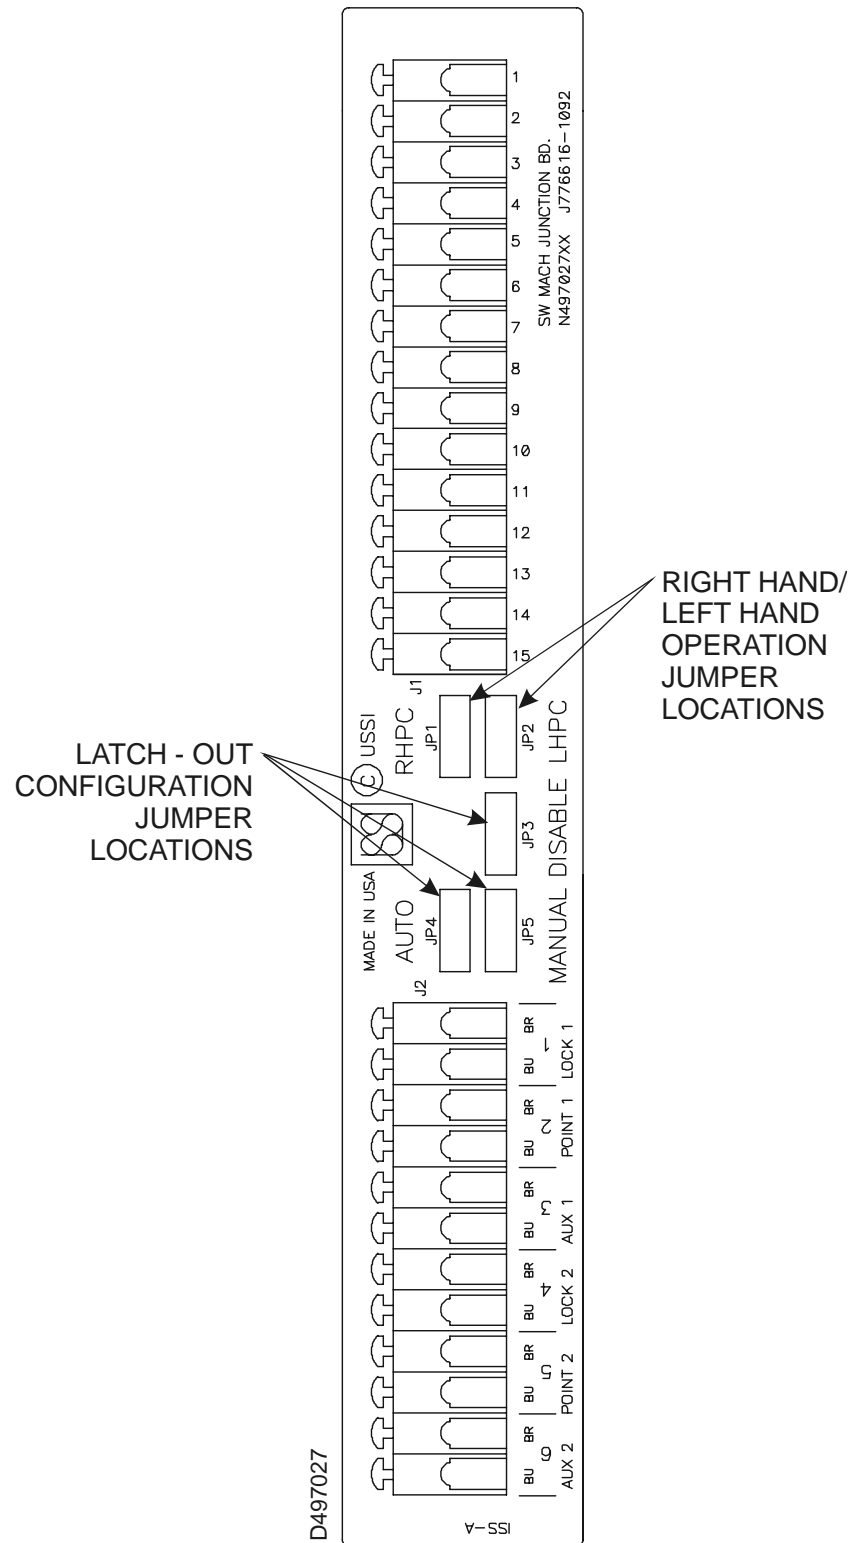

Figure 4-1. Jumper Locations on the Junction Board
The latchout jumper for all ASTS USA “M-style” switch machines is set for either the automatic, manual, or disable function. This configuration is set at the factory based on customer preference at the time the order was placed. To change this configuration, remove the junction box cover and reposition the jumper. See Section 3.1.1 for a detailed explanation of each jumper function. See also Figure 4-1 for the various jumper positions.
9. Change the jumpers to the desired configuration (RHPC/LHPC and/or Latch-Out jumpers). Figure 4-1 shows the location of the jumpers on the junction board in the junction box.
The four vital and two optional auxiliary (non-vital) sensors are all terminated inside the Junction Box (Figure 4-1) located underneath the circuit controller frame. All six sensor wires are brought into the junction box through a six-way cable grip and their brown and blue wires are terminated in WAGO cage clamp connectors. The PC board inside the Junction Box identifies which sensors connect to each terminal and the color designation of each sensor wire (BR for brown and BU for blue). If any of the four vital sensors are wired incorrectly, the corresponding LEDs on the ECC will be Flashing Red. If the auxiliary sensors are wired incorrectly, they simply will not operate. There is a yellow LED on the back end of each auxiliary sensor to determine if it is operating properly.